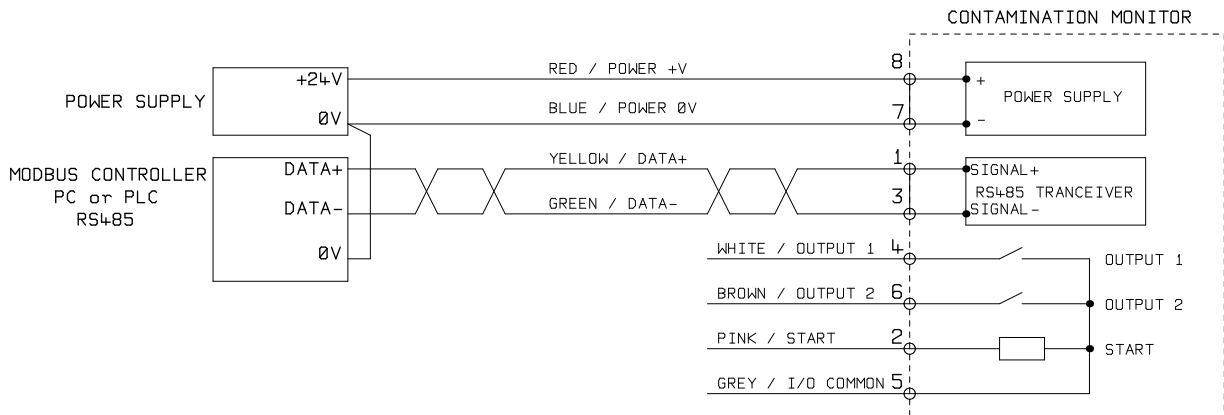

Figure 2.1 ICM Electrical Connection
- Connect 24V DC power supply. See Figure 2.1.
The ICM requires a DC power supply and the two Modbus RS485 signals, as shown in Figure 2.1. The numbers shown are the pin numbers of the circular connector that plugs into the ICM.